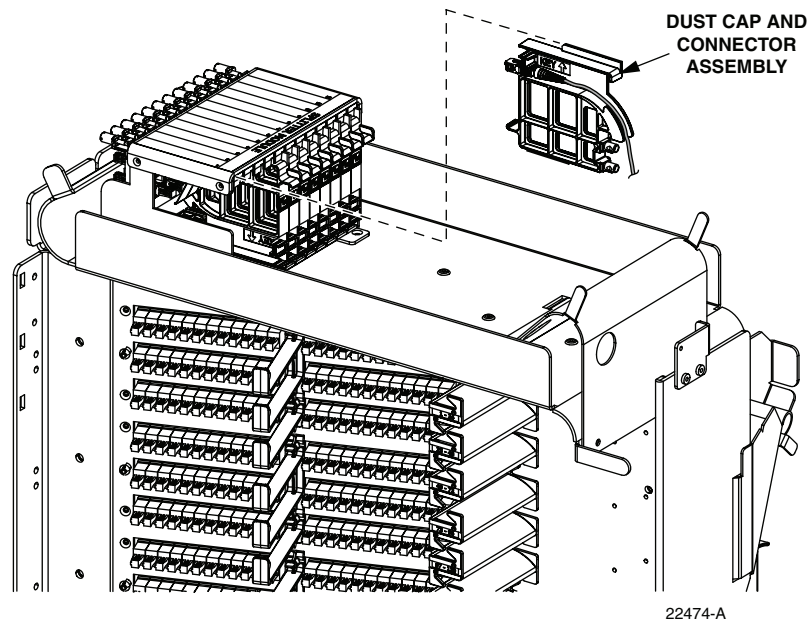

Figure 16. Inserting Dust Cap Assembly
9. Connect the patch cord connector(s) to the feeder cable connector(s) by inserting the dust cap assembly into the splitter slot as shown in Figure 16.